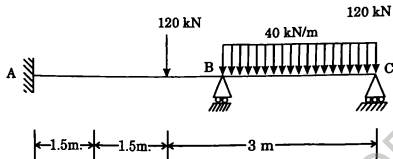

Figure 4
- (b) Analyze the continuous beam shown in Figure 4 by the three moment equation. Draw the shear force and bending moment diagram.